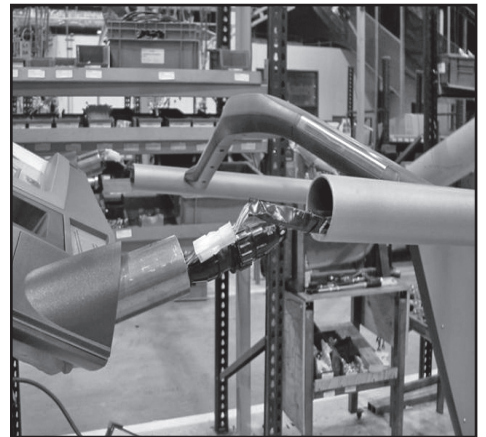

Figure 1-2
- 1-3:** Gently pull console off evenly from both sides until cables are exposed (see Figure 1-2).